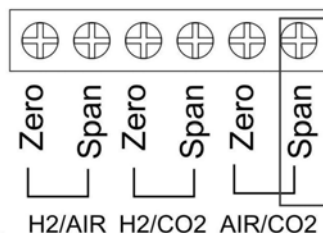

Figure 3-9: AIR/CO₂ Span Trimpot
- Adjust the air/CO₂ span trim pot so that the display indicates 100% \pm 0.1%. See Figure 3-9